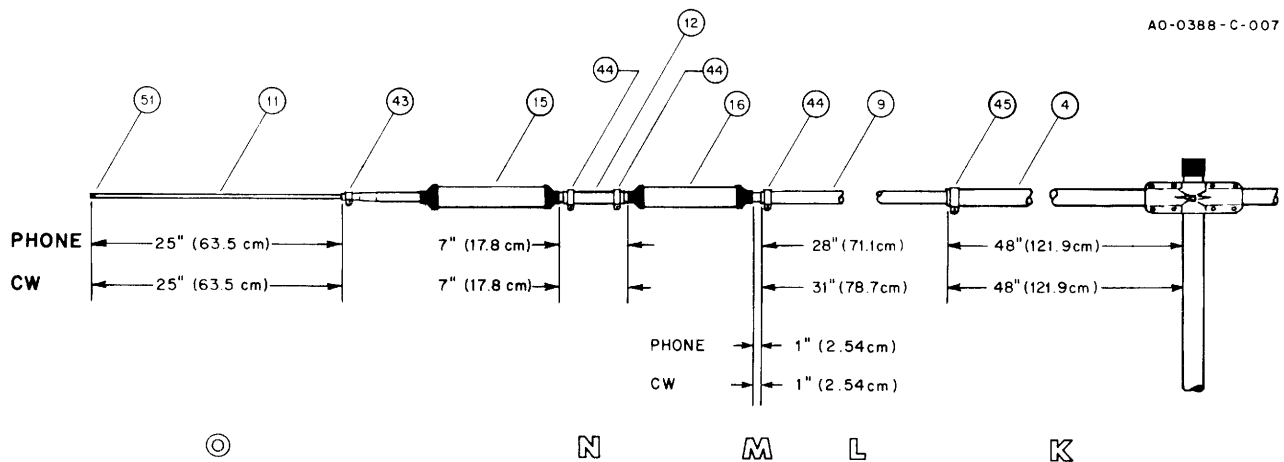

Figure 12
Select the D1 section of tubing (1 1/4" x 48", 121.9 cm long, item 4). Slip a 1 1/4" compression clamp over the D1 section. Select the D2 section (1 1/8" x 38", 96.5 cm long, item 9). Slip the unswaged end of D2 into the D1 section and measure dimension L for your mode of transmission as shown in Figure 12. Now tighten the compression clamp slightly.
Slip a 1" compression clamp over the swaged end of D2. Select the 10-meter trap (878749, item 16) and slip the shorted end (identified by the part number) into the D2 section. Measure dimension M for your mode of transmission as shown in Figure 12. Make certain the trap drain holes are facing downward, then tighten the compression clamp slightly.
Slip two 1" compression clamps over the D3 section (1" x 6", 15.2 cm long, item 12). Slip the D3 section over the 10-meter trap, then slip the shorted end of the 15-meter parasitic trap (878694, item 15), into the D3 section. Make certain the shorted end of the trap (identified by the part number) is inserted into the D3 section. Measure dimension N for your mode of transmission as shown in Figure 12, keeping D3 approximately equidistant from the two traps. Now tighten the compression clamps slightly.
Select the D4 section ($\frac{7}{16}$ " x 28", 71.1 cm long, item 11) and slip it into the swaged end of the 15-meter trap. Measure dimension O for your mode of transmission as shown in Figure 12 and then tighten the compression clamp lightly.